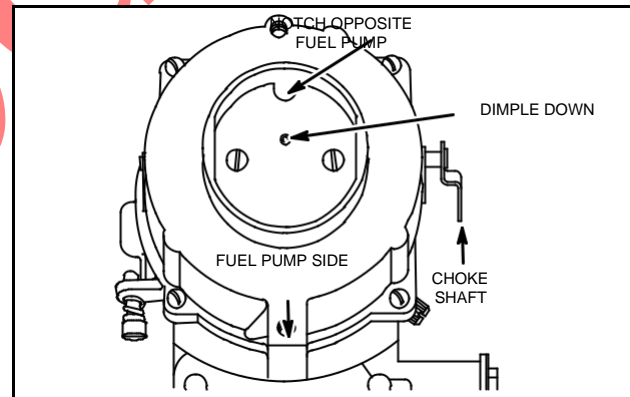

Fig. 34 – Install Choke Shaft
1. Install choke shaft, Fig. 34.